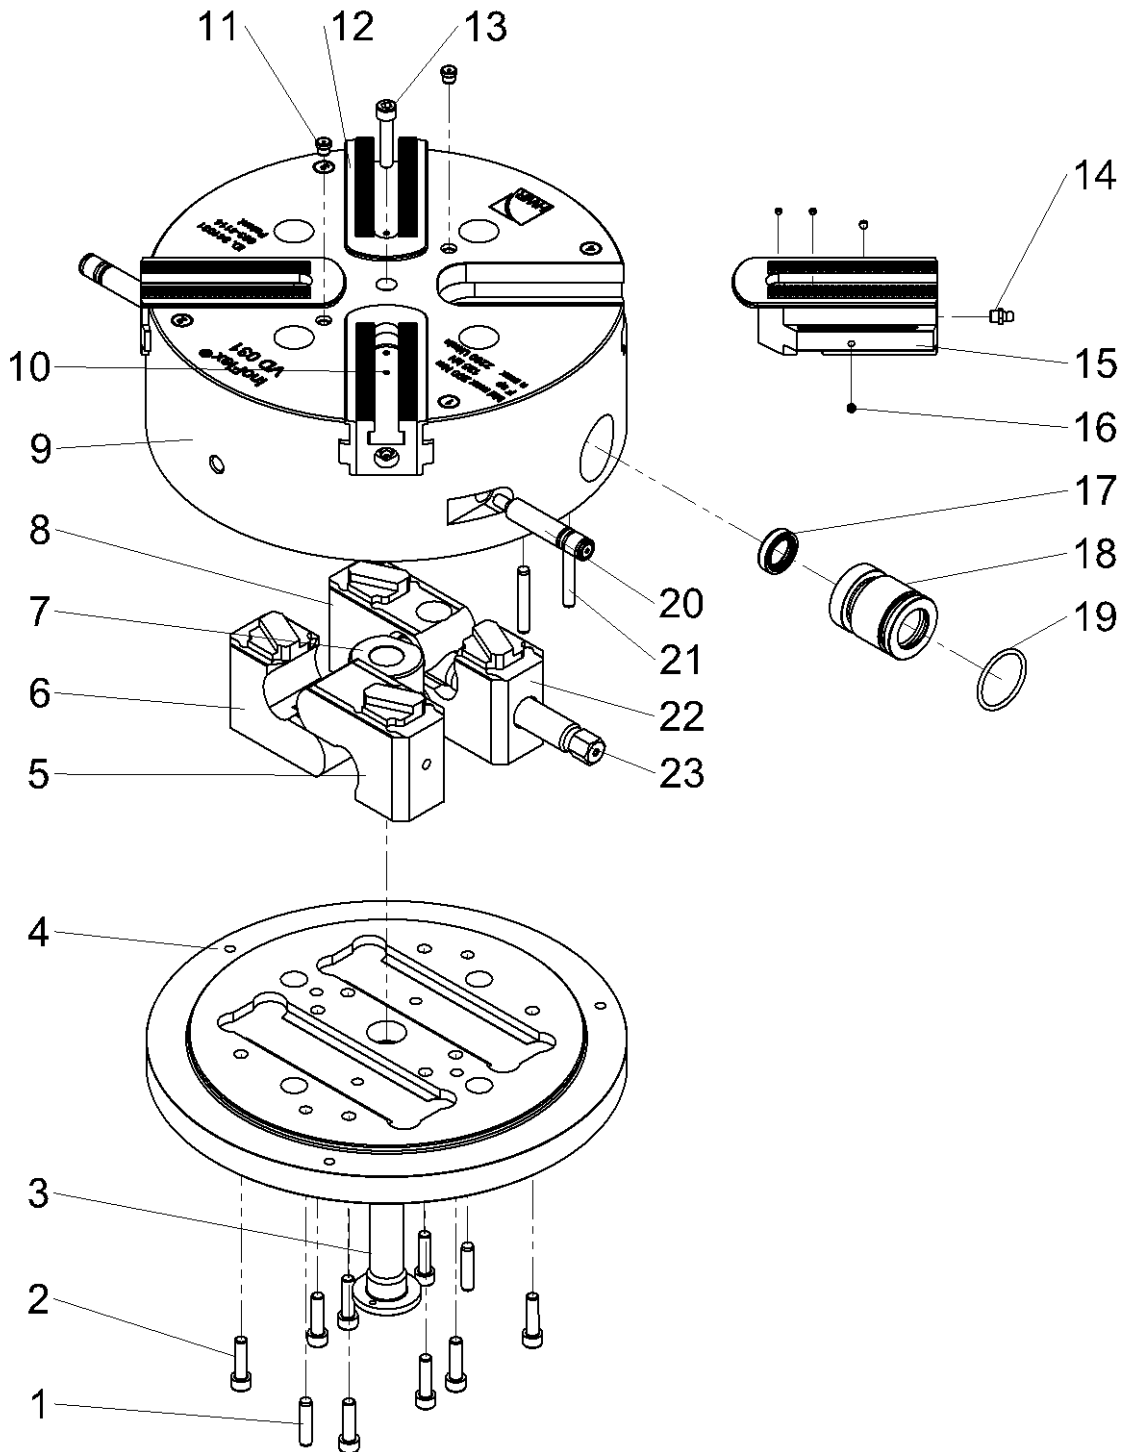

Fig. 8-1: Spare parts (VD016 - VD040)
- Step 1** Look for the desired part in figure 8-1 / 8-2 / 8-3 / 8-4 / 8-5.
Step 1 Look for the desired part in figure 8-1 / 8-2 / 8-3 / 8-4 / 8-5.